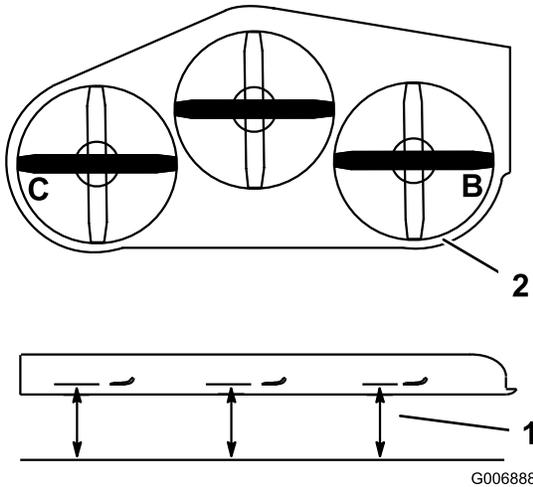

Figure 104
1. Position the **right** blade side-to-side (Figure 104).
2. Measure the right blade at the **B** location, from a level surface to the cutting edge of the blade tip (Figure 104).
4. Position the left blade side-to-side (Figure 104).
5. Measure the left blade at the **C** location (Figure 104), from a level surface to the cutting edge of the blade tip.